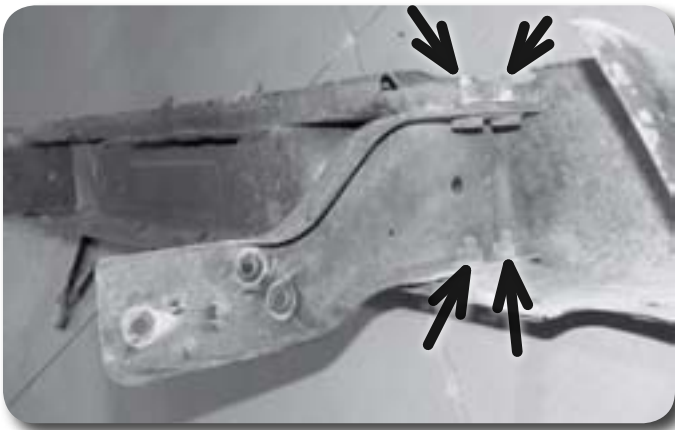

Figure 27
38. Remove the eight bolts (4 per side) and the bumper brackets from the rear bumper **Figure 27**.